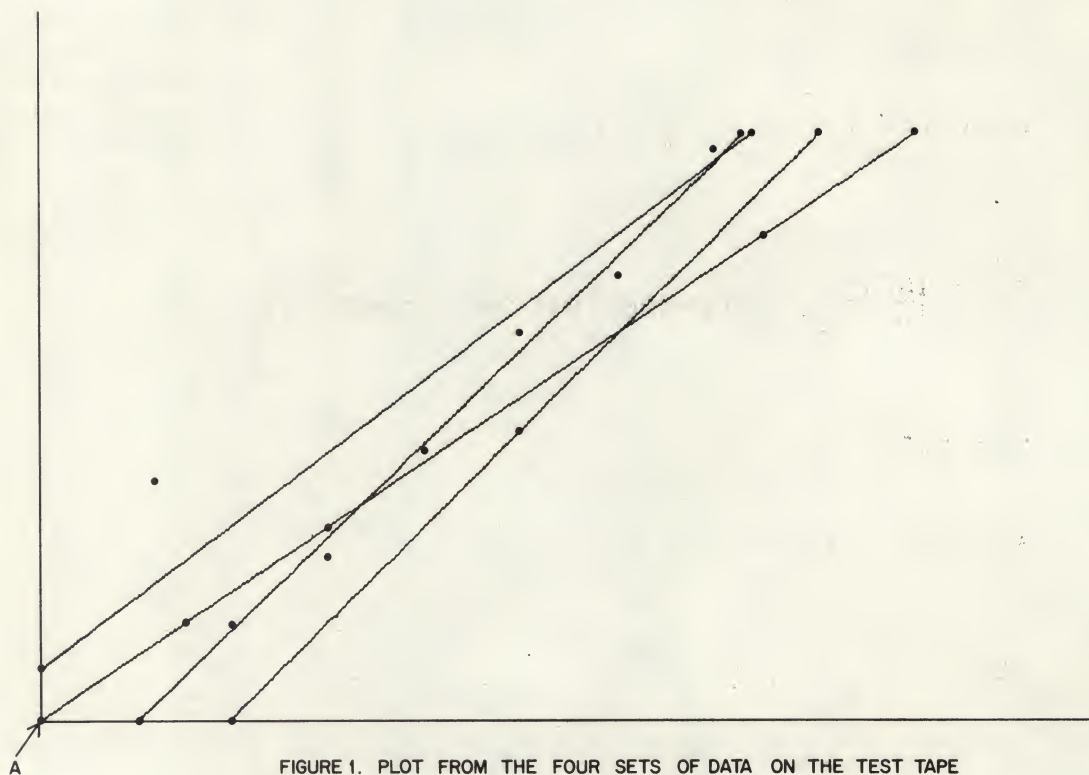
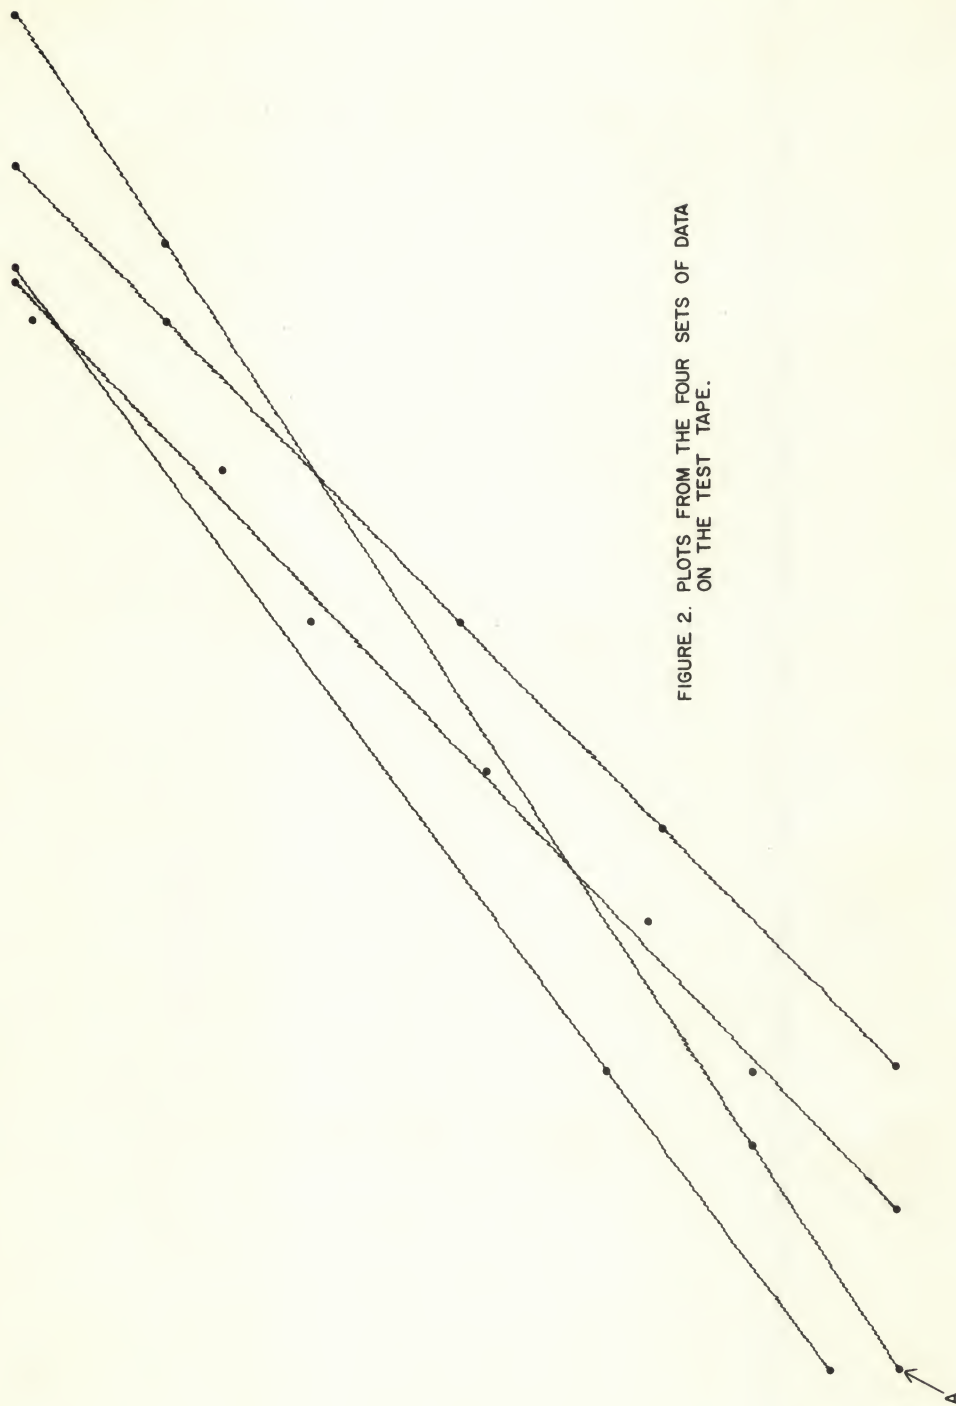

FIGURE 1. PLOT FROM THE FOUR SETS OF DATA ON THE TEST TAPE
FIGURE 2. PLOTS FROM THE FOUR SETS OF DATA
6. Before entering the data, set the plotter pen manually exactly on point A, indicated in Figure 1 or Figure 2, depending on whether the user wants a half page or a full page format. Location 1320 contains 5331 which causes the computer to bypass a section of the program which automatically sets the pen on point A. We found that the pen might be off-center and so does not go exactly to point A. Therefore, we inserted the JMP. The user is invited to try the subroutine by changing 1320 to 7300. It is possible that the counters M1000 and N18 need adjusting.
12. Figure 1 is a completed plot in half page format. Figure 2 gives the same points in full page format. Figure 3 is a typical type-out (for the half page option of Figure 1).